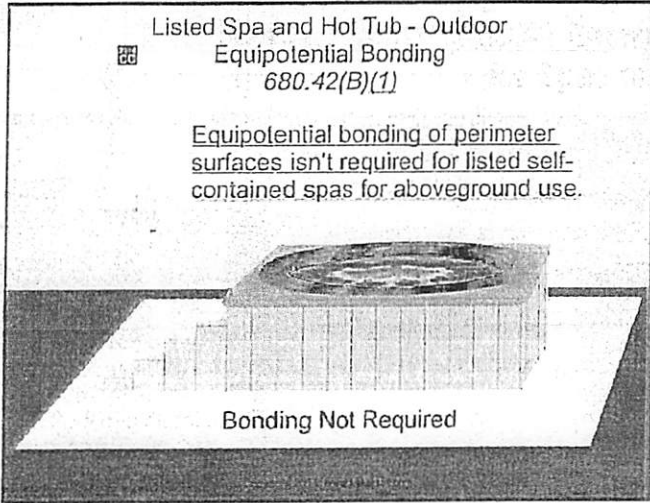

Figure 680-53
(B) Equipotential Bonding. Equipotential bonding of perimeter surfaces [680.26(B)(2)] isn't required for outdoor spas and hot tubs if they meet all of the following conditions: Figure 680-53